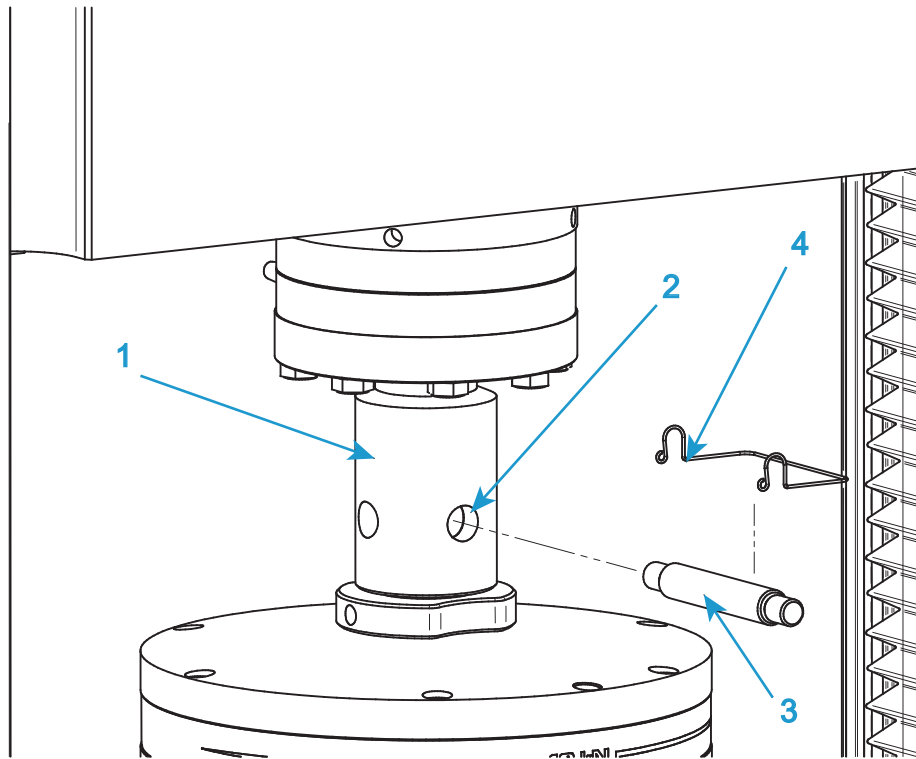

Figure 20. Typical grip installation
Refer to Figure 20 on page 91 when following this procedure.
1. For the upper grip, insert the adapter on the grip into the female clevis socket (1 in Figure 20) on the load cell adapter.
2. Align the clevis holes (2 in Figure 20) and insert the clevis pin (3 in Figure 20) through the holes.
3. Secure the clevis pin in position with the clevis pin clip (4 in Figure 20).